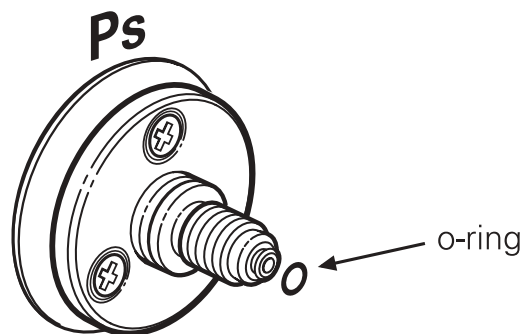

Figure 2-5 Bulkhead Connector
- (1) Replacing the output connector o-ring (Figure 2-5)
- (e) Unscrew and remove the three counter sunk screws securing the Ps and Pt bulkhead connectors (Fig. 2-5).